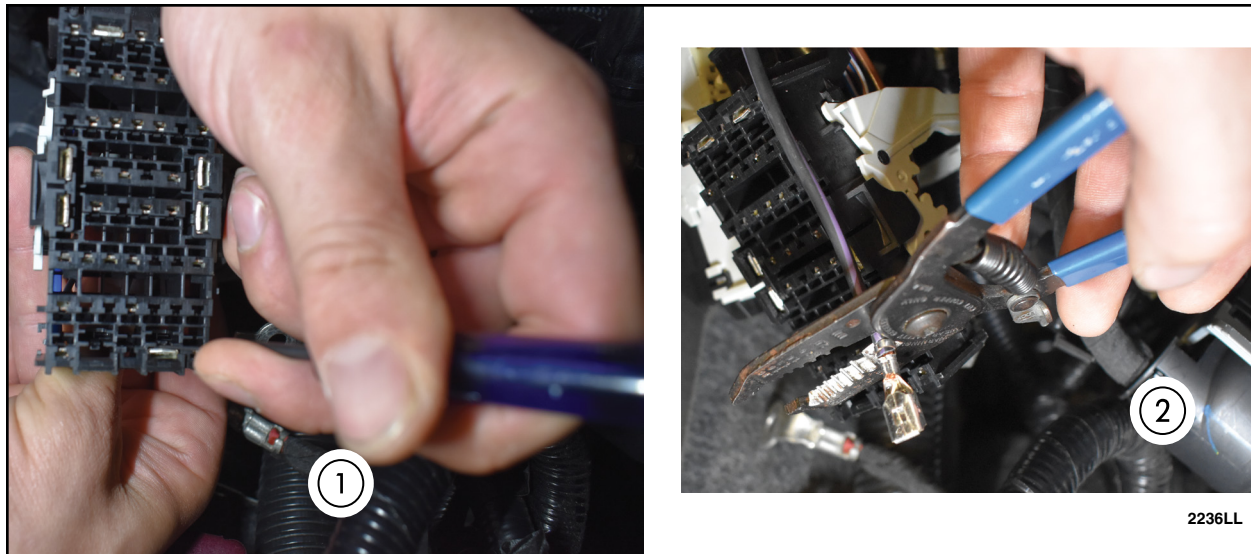

FIGURE 43
50. Remove the black-violet wire located in cavity 47 from the C1035B connector using a terminal tool. Cut terminal end off of wire. See Figure 43.